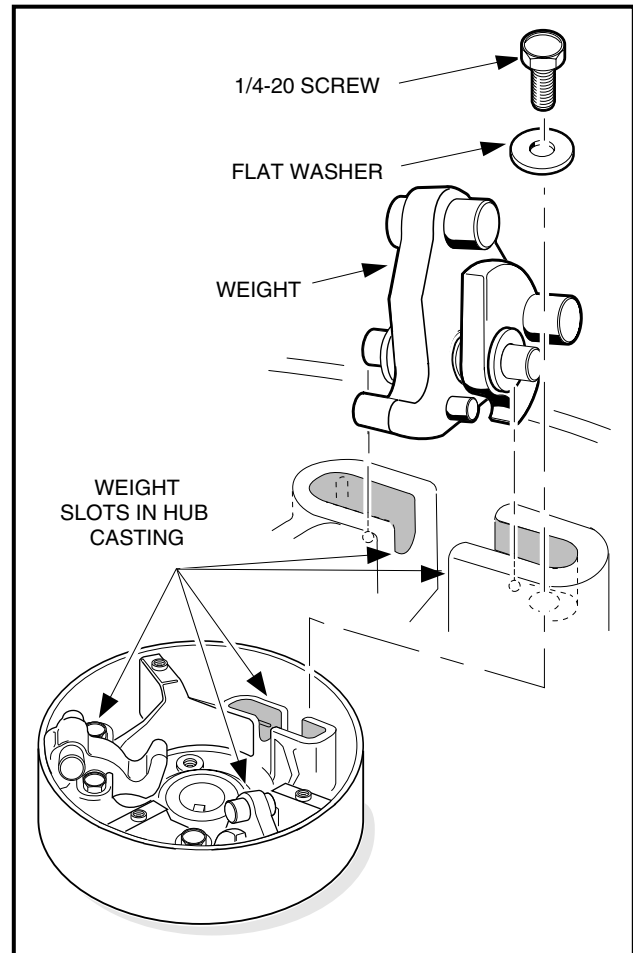

Figure 17-9 Weight Position
- 5.1. Remove the screws and flat washers attaching the weights (Figure 17-9, Page 17-9).
11. Install the weight assemblies into the slots in the hub casting (**Figure 17-9, Page 17-9**). Make sure the mounting pin protrudes an equal amount on each side of the weights when the assemblies are in position (**Figure 17-14, Page 17-11**).
15. Install a no. 10-24 button retaining screw with flat washer through each button and into each rib. Tighten the screws to 34 in-lb (3.8 N·m) (**Figure 17-9, Page 17-9**).